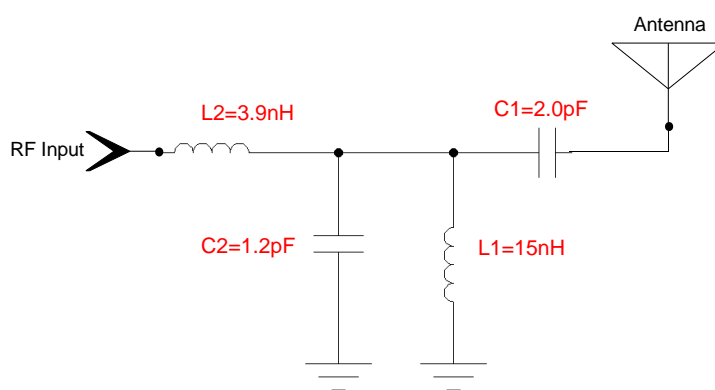

Figure 4
2. Figure 4 below shows the Matching Circuit. Components used are listed below: